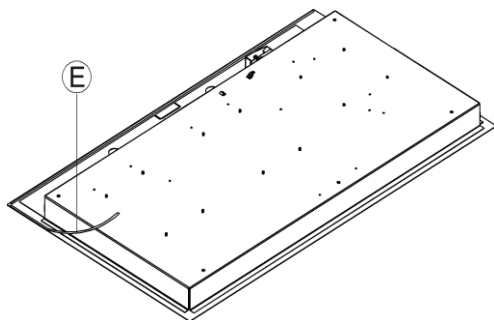

Fig. 3
- Overturn the cooktop and correctly position seal "E" (fig. 3) under the edge of the cooktop itself, so that the outer side of the seal perfectly matches the outer edge of the cooktop. The ends of the strips must fit together without overlapping.